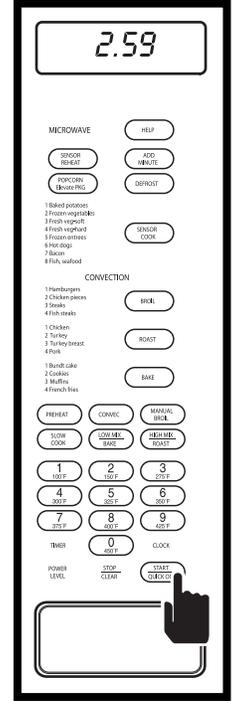

Figure 3-27. To Start, Press QUICK ON/START Key
4. After amount of time is entered, press QUICK ON/START key to begin timer countdown (See Figure 3-27). At the end of the countdown, display will flash “END” and alarm will beep. Push the STOP/CLEAR key to return to normal operation.